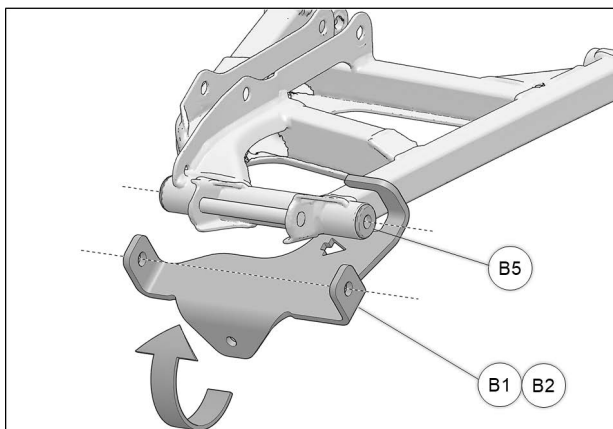

Fig. 6
6. Pivot front of bracket (B1-B2) up to suspension arm and align holes in bracket with bushings (B5). See Fig. 6